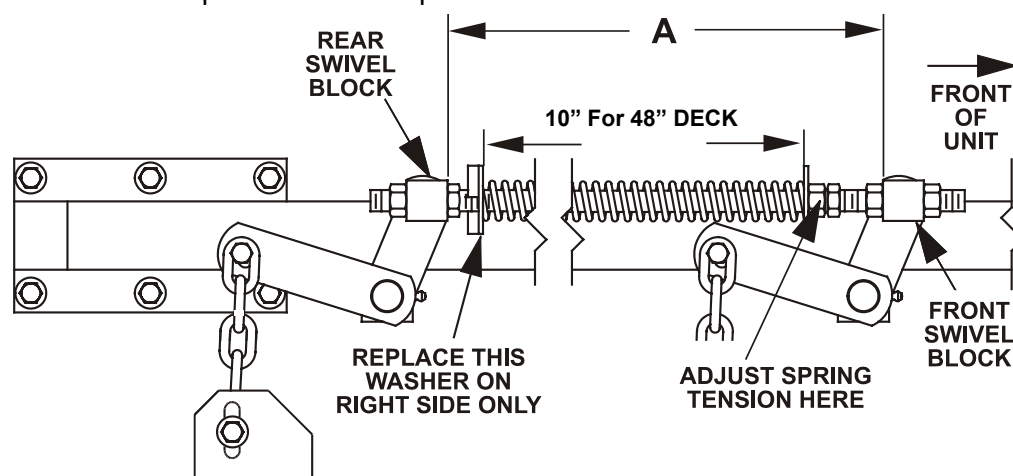

FIGURE 3
4. Measure the distance between the front and rear swivel blocks on the right side deck lift mechanism. Dimension A in Figure 3. Write this measurement down for use during re-assembly.
6. Set the deck lift handle to the 4.5" height position (also transport position) and remove all force from the right side deck lift spring by loosening the nuts at the front of the spring. See Fig. 3.
7. The supplied oversized 2.25" outside diameter (O.D.) flatwasher (Item 21) must replace the existing flatwasher on the right side deck lift spring at the slotted bracket to the rear of the spring (as shown in Fig. 3). This will keep the discharge chute from entering the slot at the deck's lowest positions when chute is in raised position for transport.
11. Set the deck lift lever to the 4.5" cutting height position (also transport position). Adjust the spring tension until proper distance is obtained between the two washers (See Fig 3) by turning the nut at the front of the spring. Lock the nut in position with the jam nut.